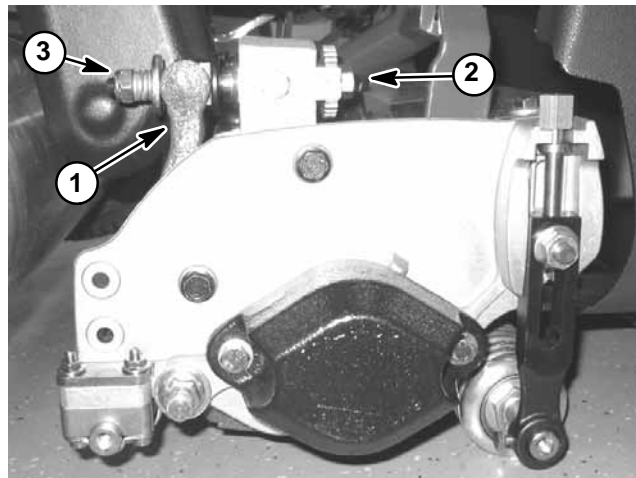

Figure 11
2. On both sides of cutting unit, loosen bedbar adjuster screw by turning screw counterclockwise (Fig. 11).
3. Back off the spring tension lock nuts until the washer is no longer tensioned against the bedbar (Fig. 11).